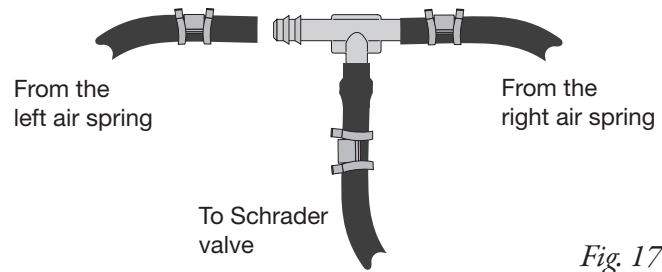

Fig. 17
4. Use this procedure (Fig. 17) for all air line connections:
- a. Slide the air line clamp (K) onto the air line (B).